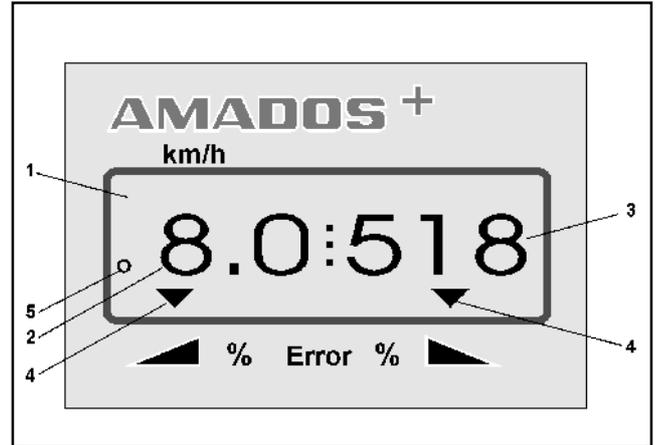

Fig. 1
AMADOS+ is supplied with a 6-digit display (Fig. 1/1) In operation position of the implement, the display shows:
- the current forward speed (Fig. 1/2) in [k.p.h.],
- the current spread rate (Fig. 1/3) in [kg/ha] and
- function control elements (Fig. 1/4) as, e. g. left and right hand shutter open.